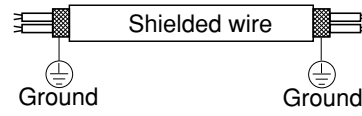

Fig. 5-4
(5) Use shielded wires for inter-unit control wiring (c) and ground the shield on both sides, otherwise misoperation from noise may occur. (Fig. 5-4)